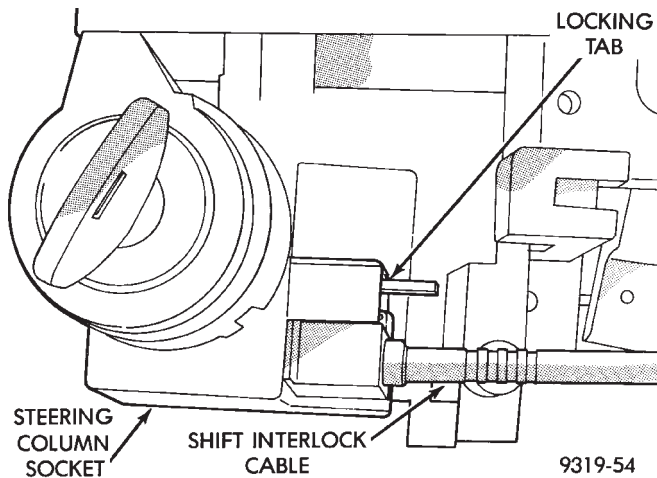

Fig. 18 Shift Interlock Cable Installed
(8) If vehicle is equipped with a floor shifter, turn key to run position and install shift interlock cable into steering column socket (Fig. 18). Be sure locking tap on interlock cable is fully engaged with steering column socket.
(10) If vehicle is with a column shifter, correctly route shift cable to cable support bracket and install